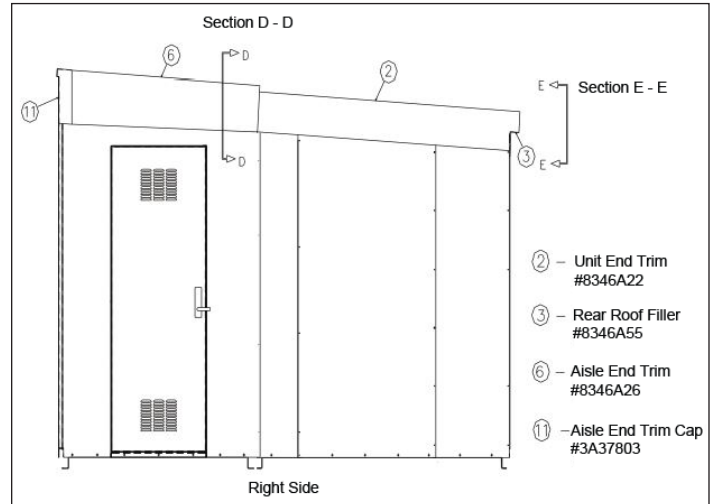

Figure 17. Unit and Aisle End Trim Locations for 5 kV through 27 kV Structures.
11. Install the seam covers, end trims, and roof fillers. This includes the right- and left-hand end trim, right and left roof filler, right and left aisle unit filler unit seam cover, mid roof filler and rear filler. Refer to Figures 17 through 20 for the placement of these items.
12. Install the aisle seam cap, right and left aisle end trim cap, and end trim. Refer to Figures 17 through 20 for the placement of these items.